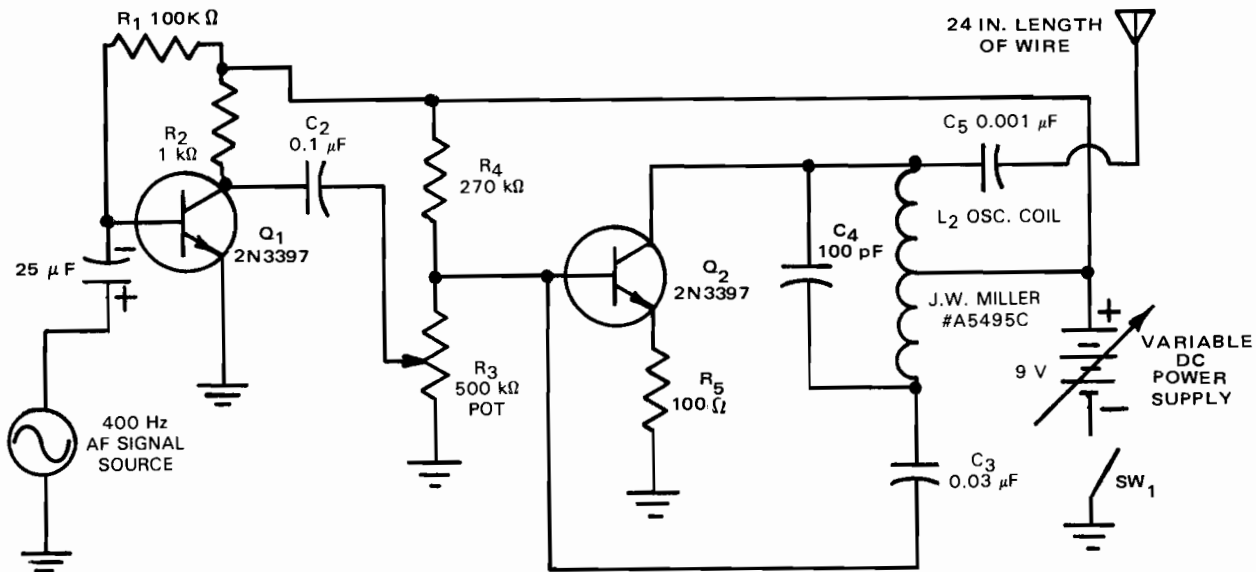

Fig. 20-1-1
1. Construct the AM transmitter like that which is shown in Fig. 20-1-1.